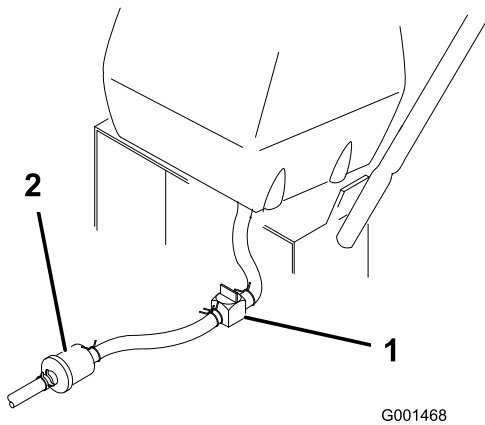

Figure 31
2. Close the fuel shut-off valve at the fuel tank (Figure 31).
3. Squeeze the ends of the hose clamp together and slide it up the fuel line away from fuel filter (Figure 31).
4. Pull the fuel line off the fuel filter (Figure 31). Open the fuel shut-off valve and allow the gasoline to drain into a gas can or drain pan.
7. Open fuel shut-off valve at fuel tank (Figure 31).
3. Close fuel shut-off valve at the fuel tank (Figure 31).